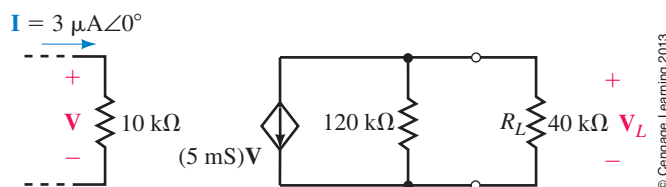

FIGURE 19-56
10. Refer to the circuit of Figure 19-56.